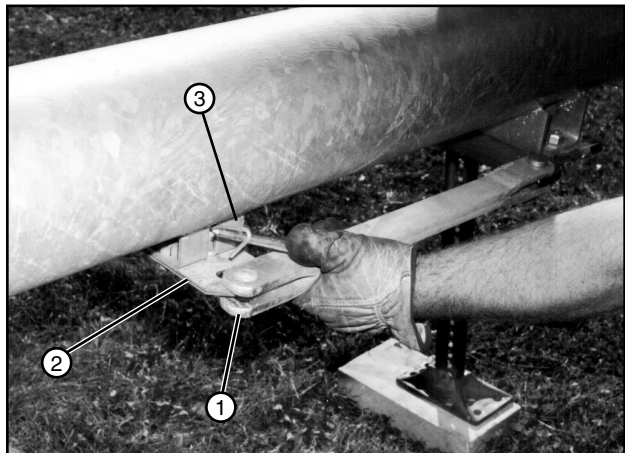

Figure 82-2 1. Tow Link Bar 2. Tow Link Carrier 3. Carrier Spring
4. Rotate the tow link bar into the tow link carrier until the carrier spring latches into the hole in the tow link bar. See figure 82-2.